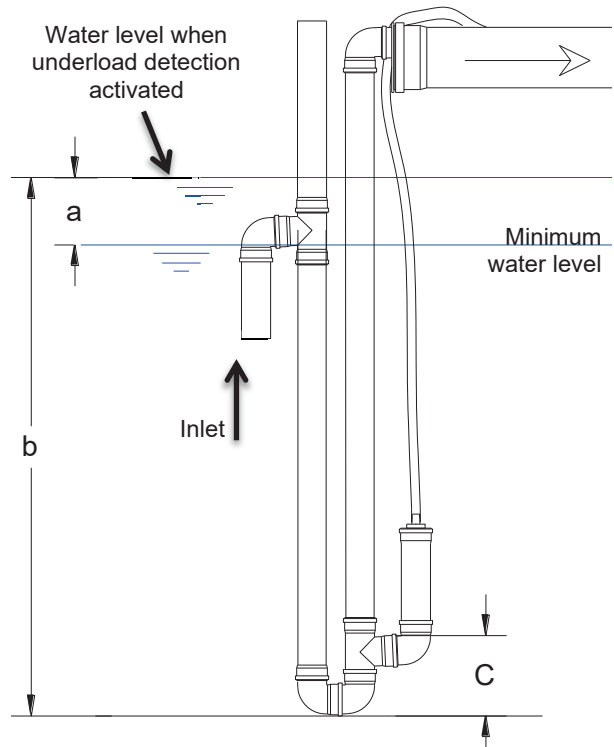

Figure 14: Charging lifter, levels in preliminary cleaning
The first chamber (sludge reservoir/buffer), where the feed lifter is located (oneAdvanced larger than 10 PE) or the SBR reactor where the membrane aerator is located (oneAdvanced 3-9 PE) respectively, must be filled with water up to the height at which a cleaning cycle is to be triggered. This level depends on the geometry of the tank and the number of connected inhabitants (PE). The recommended buffer heights *a* (see *Figure 14, p 76*) above the minimum water level are specified for the various configurations in the table below.